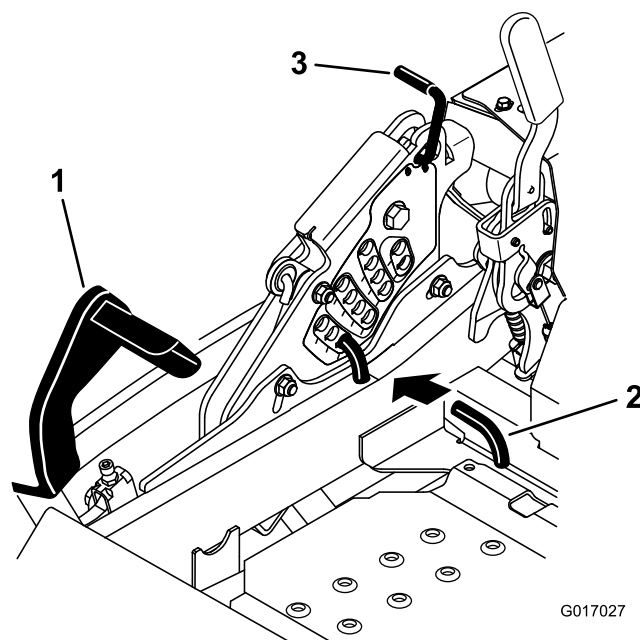

Figure 26
2. Push on the deck-lift pedal with your foot, and raise the mower deck to the transport position (also the 140 mm (5-1/2 inches) cutting height position) as shown in Figure 26.
3. To adjust, rotate the pin 90 degrees and remove the pin from the height-of-cut bracket (Figure 26).
4. Select a hole in the height-of-cut bracket corresponding to the height-of-cut desired, and insert the pin (Figure 26).